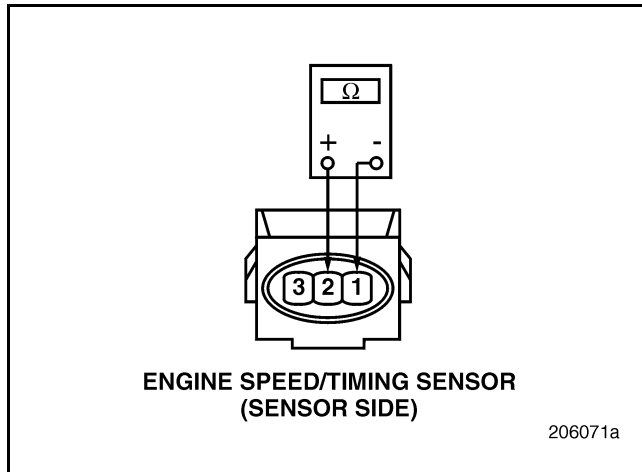

Figure 388
3. Measure the resistance between sensor terminals 1 and 2 (see Figure 388).